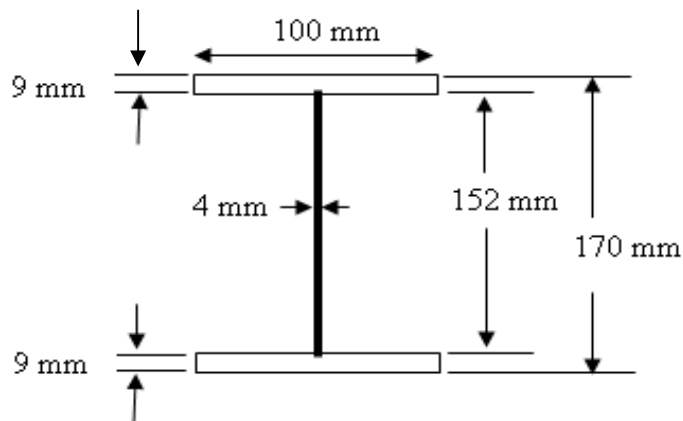

Figure 3
4. a) Figure 3 shows the I-beam section with the dimensions. Please calculate **FIVE (5)** of the section properties for the section.